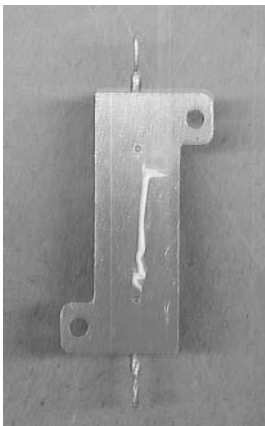

FIGURE 1:
14. Prepare the new resistor with a small amount of thermal adhesive and position it on the plate. See Figure 1 below.